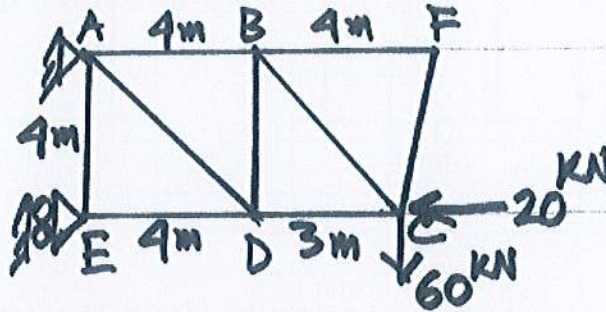

Fig.1
1. Using Virtual Work (Unit Load) Method, find the horizontal and vertical deflection of joint D of the truss in Fig.1